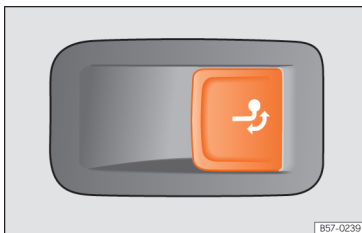

Fig. 210 Right side of the luggage compartment: button to unlock the tow hitch.
- Pull the »» Fig. 210 button briefly. The tow hook unlocks electrically and automatically turns outwards. The button's control lamp flashes.
- Pull the »» Fig. 210 button briefly. The tow hook unlocks electrically.
- Never press the button »» Fig. 210 when there is a trailer hooked to the vehicle or when a carrier system or other accessories are mounted on the tow hook.